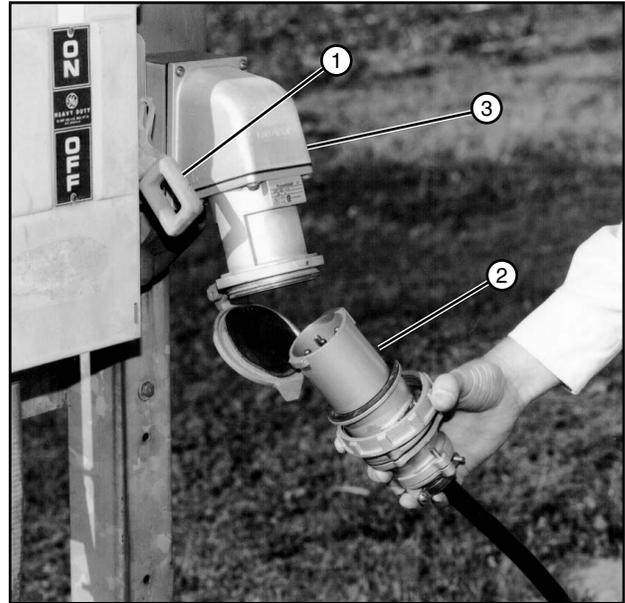

Figure 61-1 1. Service Disconnect - OFF
25. With the service disconnect in the OFF position, plug the power plug into the receptacle. See Figure 61-1.